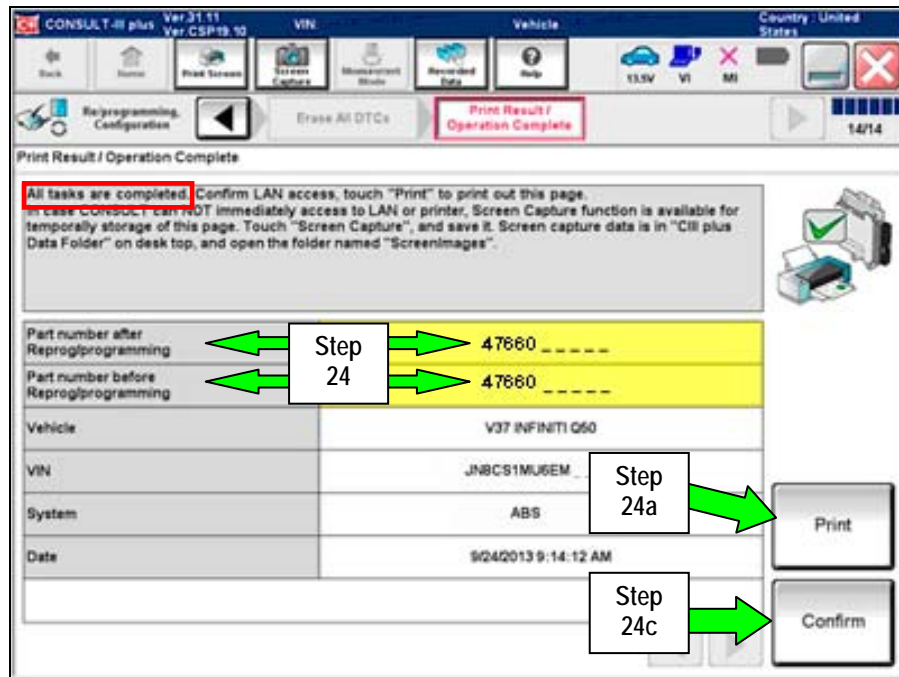

Figure 22
- a. Print a copy of the screen in Figure 22 by selecting **Print**.